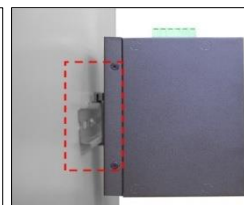

Figure 5
- Lightly pull down the bracket on to the rail as shown in Figure 5.